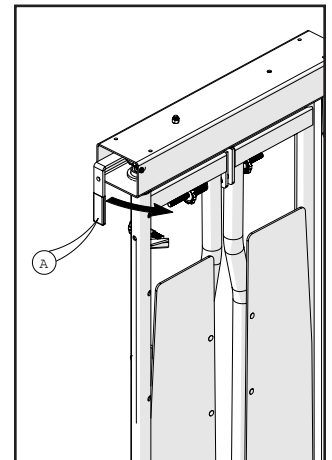

Figure 8: Releasing the animal
1. To release the animal, pull the control handle (a) on the side of the headgate toward the rear of the headgate as shown (Figure 8).